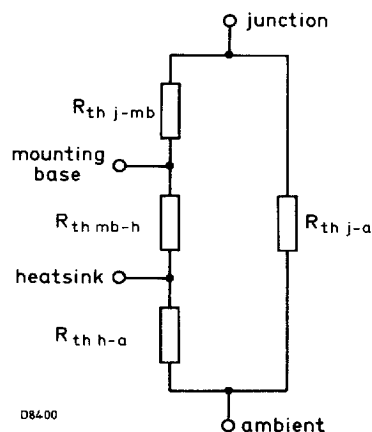

Fig.4
- a. The various components of junction temperature rise above ambient are illustrated in Fig.4.